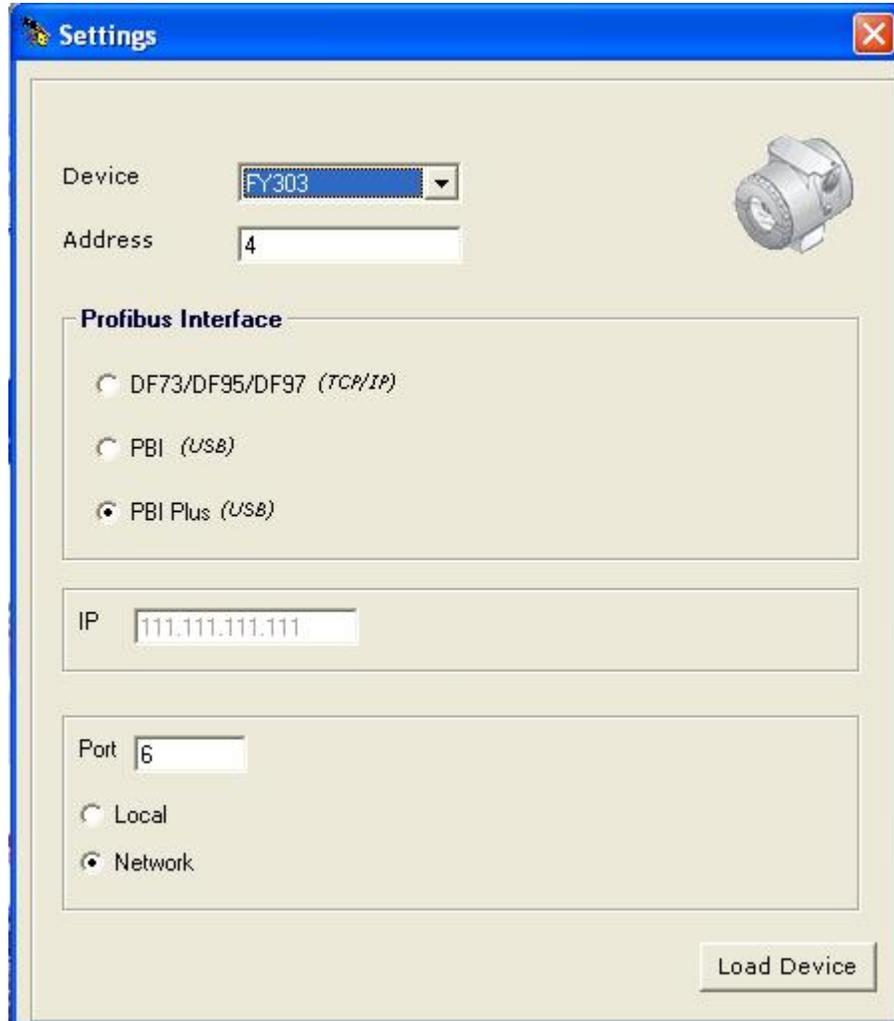

Figure 2.1 – Configuration of PROFIBUSView software
- 1) After initializing PROFIBUSView software, choose "Settings" option. In "Device" combo box, select the equipment to be configured. Insert the real device address. In the "Profibus Interface" option, "PBI-PLUS (USB)" item should be set. Choose the communication port (the installed virtual serial port) and then, choose the communication scheme: "LOCAL" option for bench use or "NETWORK" option for powered PA channels. Details about those communication types can be seen in the Chapter 1. Figure 2.1 shows the screen's configuration detail.